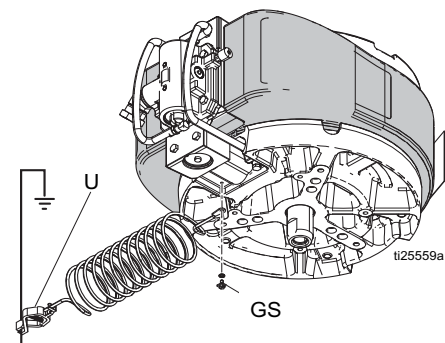

Fig. 3
*XL10000™ Pumps:* See figure 3. Verify that the ground screw (GS) is attached and tightened securely to the air motor. connect the clamp (U) of the static ground cable (H) to a true earth ground. For a ground wire and clamp, order part No. 244524.